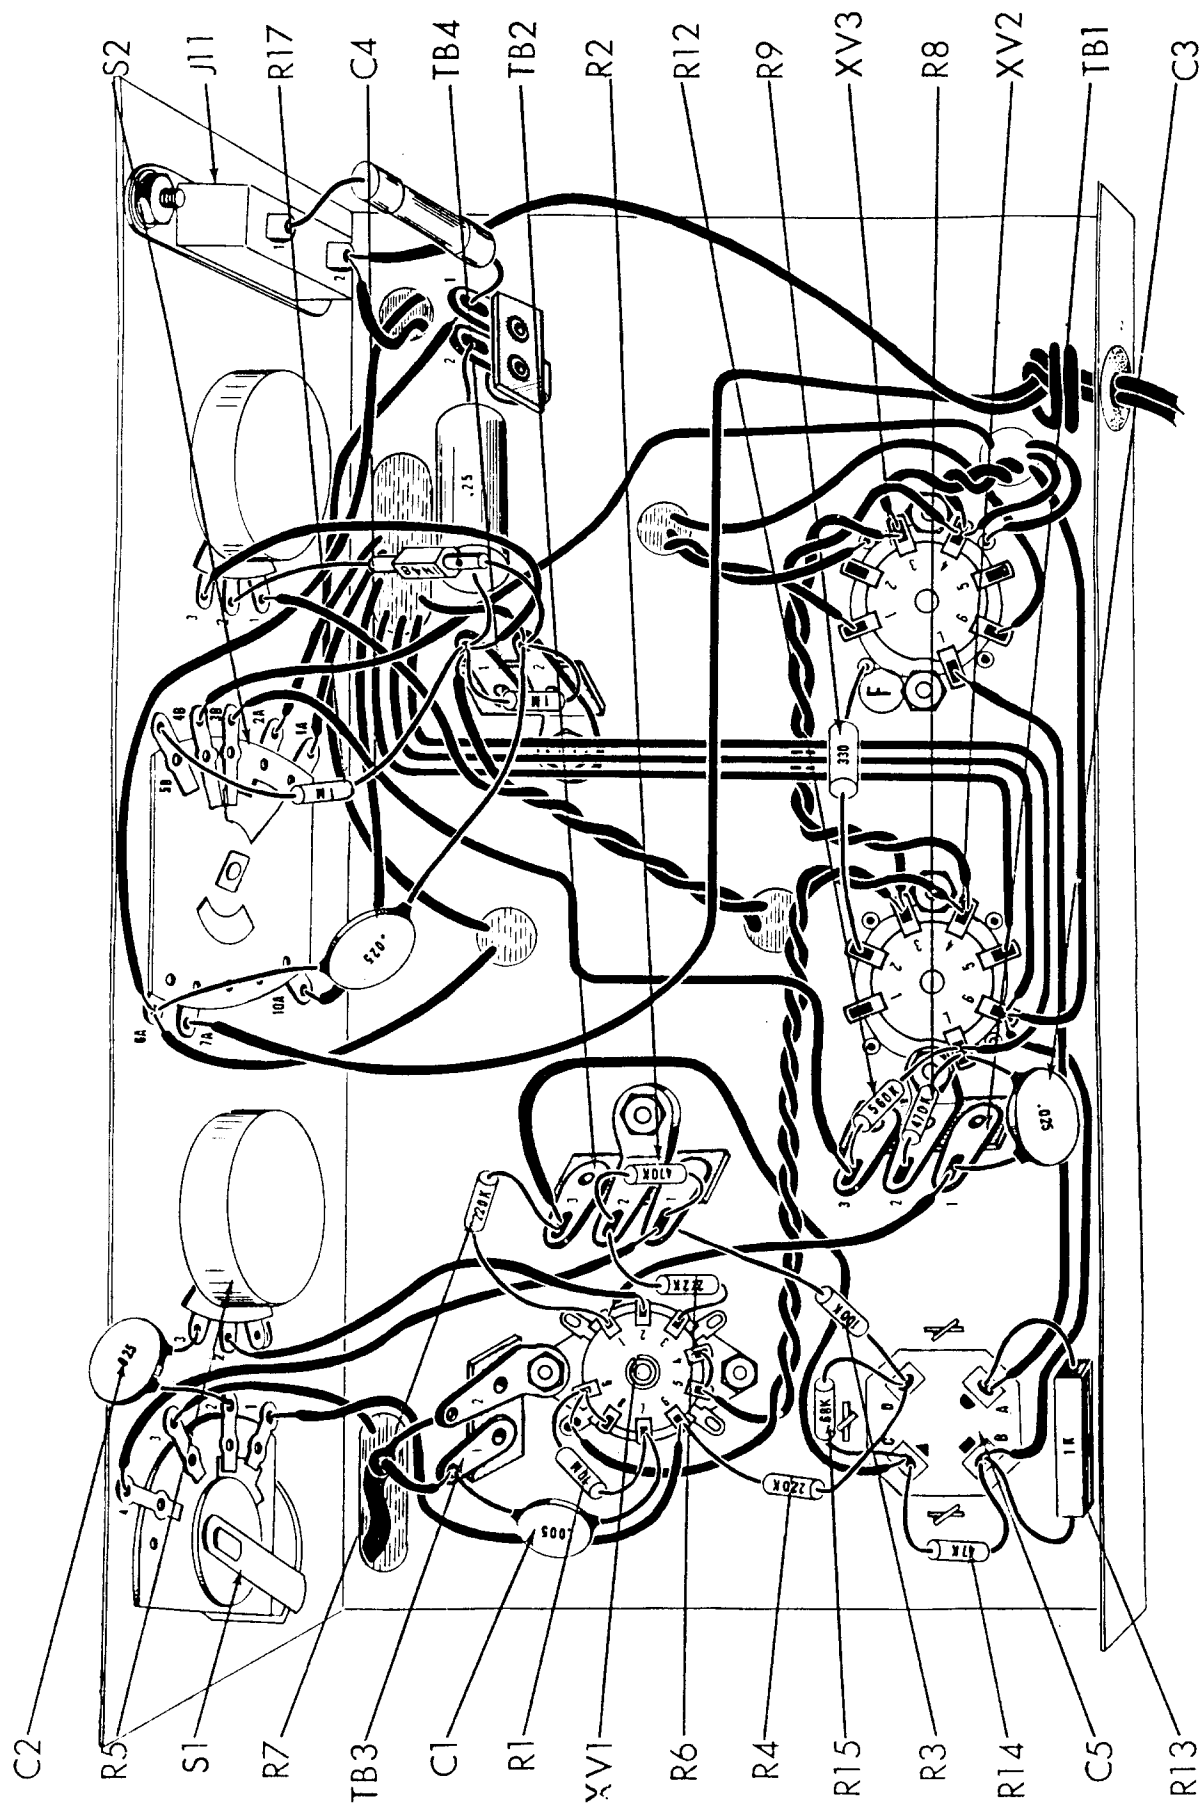

Fig. 5
1. ( ) Fig. 5. Cut both leads on a 1M $\Omega$  (brown, black, green, silver) resistor, R17, to 3/4". Connect from S2-5B (S) to TB4-1 (S).
2. ( ) Fig. 5. Cut both leads on a .025 mfd (25K or 25,000 mmf) disc capacitor, C4, to 1 1/4". Connect from S2-6A (S) to TB4-2 (S). Do not over heat TB4 or diode will be ruined.
3. ( ) Fig. 5. Cut both leads on a 330 $\Omega$  (orange, orange, brown, silver) resistor, R9, to 3/4". Connect from XV2-2 (S) to ground lug "F" on XV3 (S).
4. ( ) Fig. 5. Cut both leads on a 560K $\Omega$  (green, blue, yellow, silver) resistor, R12, to 1/2". Connect from TB1-3 (S) to XV2-7 (C).
5. ( ) Fig. 5. Cut both leads on a 470K $\Omega$  (yellow, violet, yellow, silver) resistor, R8, to 1/2". Connect from TB1-2 (S) to XV2-7 (C).
6. ( ) Fig. 5. Cut both leads on a .025 mfd (25K or 25,000 mmf) disc capacitor, C3, to 1/2". Connect from XV2-7 (S) to TB1-1 (C).
7. ( ) Fig. 5. Connect a 3" piece of green wire from TB1-1 (S) to XV1-1 (C).
8. ( ) Fig. 5. Bend ground lug over pin 1 of R5 and solder lug to this pin.
9. ( ) Fig. 5. Connect a 4" piece of violet wire from S1-4 (S) to TB2-1 (C).
10. ( ) Fig. 5. Connect a 3" piece of green wire from R5-2 (S) to XV1-2 (S).
11. ( ) Fig. 5. Cut both leads on a .025 mfd (25K or 25,000 mmf) disc capacitor, C2, to 3/4". Connect from R5-3 (S) to S1-2 (S).
12. ( ) Fig. 5. Connect a 1/2" piece of bare wire from XV1-8 (S) to XV1-9 (C).
13. ( ) Fig. 5. Cut both leads on a 5000 mmf (5K or .005 mfd) disc capacitor, C1, to 3/4". Connect from TB3-1 (S) to XV1-7 (C).
14. ( ) Fig. 5. Cut both leads on a 10M $\Omega$  (brown, black, blue, silver) resistor, R1, to 1/2". Connect from XV1-9 (S) to XV1-7 (S).
15. ( ) Fig. 5. Cut both leads on a 220K $\Omega$  (red, red, yellow, silver) resistor, R4, to 1". Connect from XV1-6 (S) to C5D (C).
16. ( ) Fig. 5. Cut both leads on a 220K $\Omega$  (red, red, yellow, silver) resistor, R7, to 1/2". Connect from XV1-1 (S) to TB2-3 (S).
17. ( ) Fig. 5. Cut both leads on a 2.2K $\Omega$  (red, red, red, silver) resistor, R6, to 1/2". Connect from XV1-3 (S) to TB2-2 (C).
18. ( ) Fig. 5. Cut both leads on a 470K $\Omega$  (yellow, violet, yellow, silver) resistor, R2, to 1/2". Connect from TB2-2 (S) to TB2-1 (C).
19. ( ) Fig. 5. Cut both leads on a 100K $\Omega$  (brown, black, yellow, silver) resistor, R3, to 3/4". Connect from TB2-1 (S) to C5D (C).
20. ( ) Fig. 5. Cut both leads on a 68K $\Omega$  (blue, grey, orange, silver) resistor, R15, to 1/2". Connect from C5C (C) to C5D (S).
21. ( ) Fig. 5. Cut both leads on a 47K $\Omega$  (yellow, violet, orange, silver) resistor, R14, to 1/2". Connect from C5C (S) to C5B (C).
22. ( ) Fig. 5. Cut both leads on the 1K $\Omega$ , 5W, resistor, R13, to 1". Connect from C5A (S) to C5B (S).
23. ( ) Fig. 5. Push the line cord through the grommet at the rear of the chassis. Make a knot 6" from the tined lead end of the wire, inside the chassis. "Zip" the leads apart for 4". Connect one lead to S2-7A (S) and the other lead to J11-2 (S).